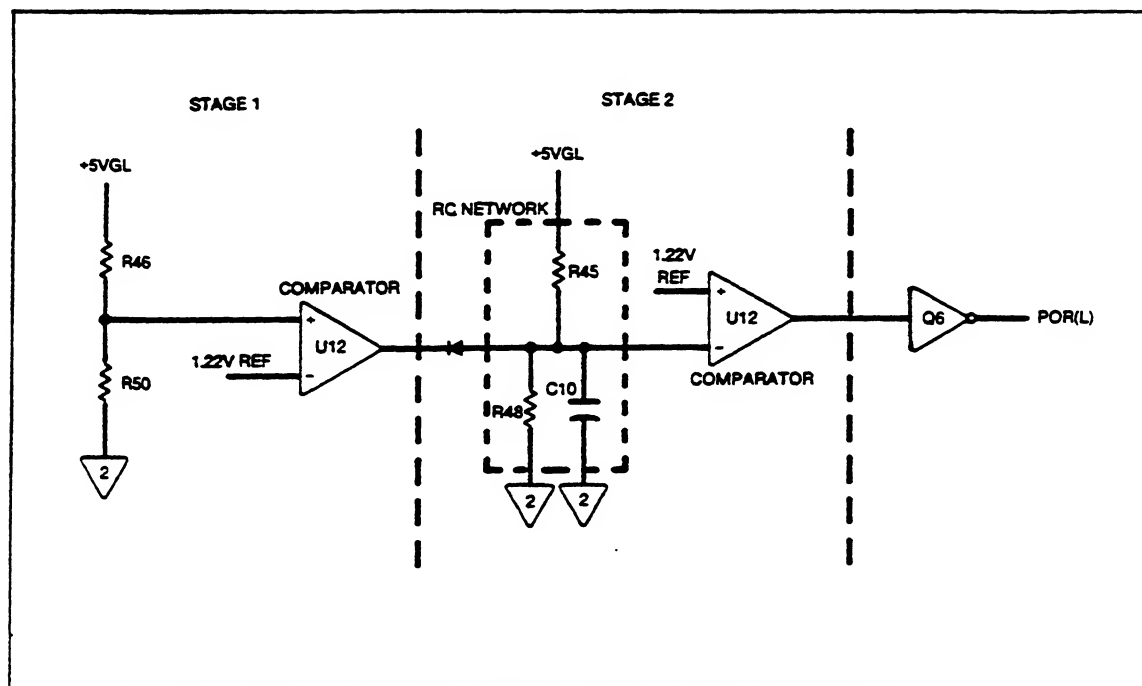

Figure 170-4. Power-On-Reset Simplified Schematic
The power-on reset circuit is shown in Figure 170-4. Stage 1 of the power-on reset circuit is the sensing circuit, used to determine if the output voltage is sufficient for operation. During turn-on, the sensing circuit releases the RC circuit in the second stage when the power supply is within tolerance, allowing the RC to charge slowly. If the voltage across the RC circuit is sufficient, it trips the comparator in stage 2. When the comparator trips, the POR(L) signal goes high. If on the other hand, the voltage dips, the output of the comparator in stage 1 goes low, pulling the voltage across the RC circuit low very quickly. Low voltage across the RC circuit causes the comparator to set the POR(L) reset signal low.